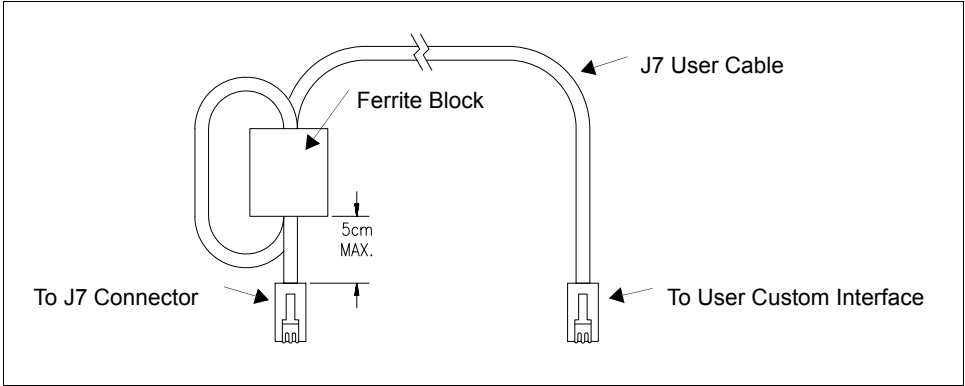

Figure 2.7 J7 User Cable with Ferrite Block
3. Loop the cable through the ferrite block. See Figure 2.7, “J7 User Cable with Ferrite Block” on page 33.